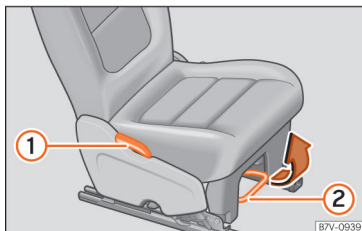

Fig. 130 Adjusting rear seats
- Pull the lever and adjust the seat backrest to the desired position » **Fig. 130 ①** » ①. The seat backrest must be engaged when the lever is released!